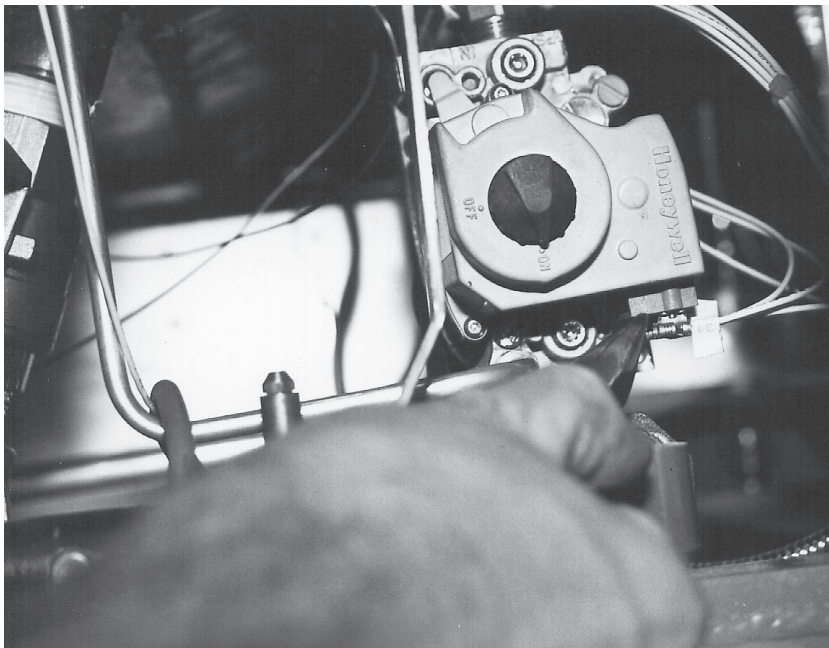

Fig. 40
1. Note and remove all wiring associated with the combo valve. (Fig. 40)